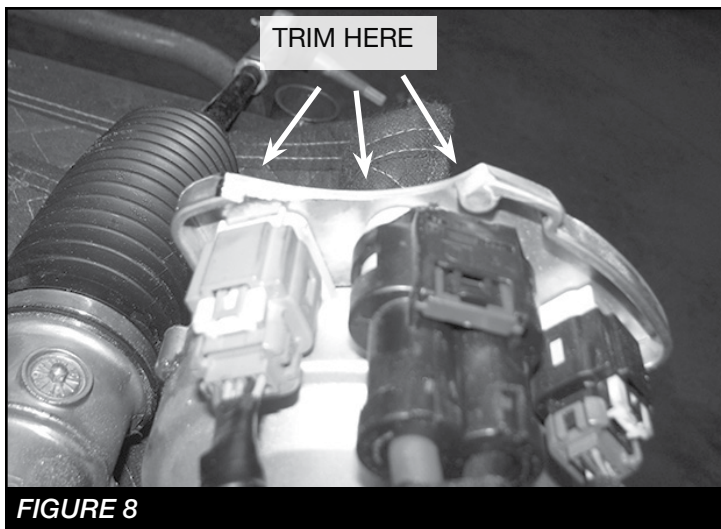

FIGURE 8
11. Due to vehicle variances, the steering rack will need to be removed and trimmed where the wiring harnesses are located. **SEE FIGURE 8**